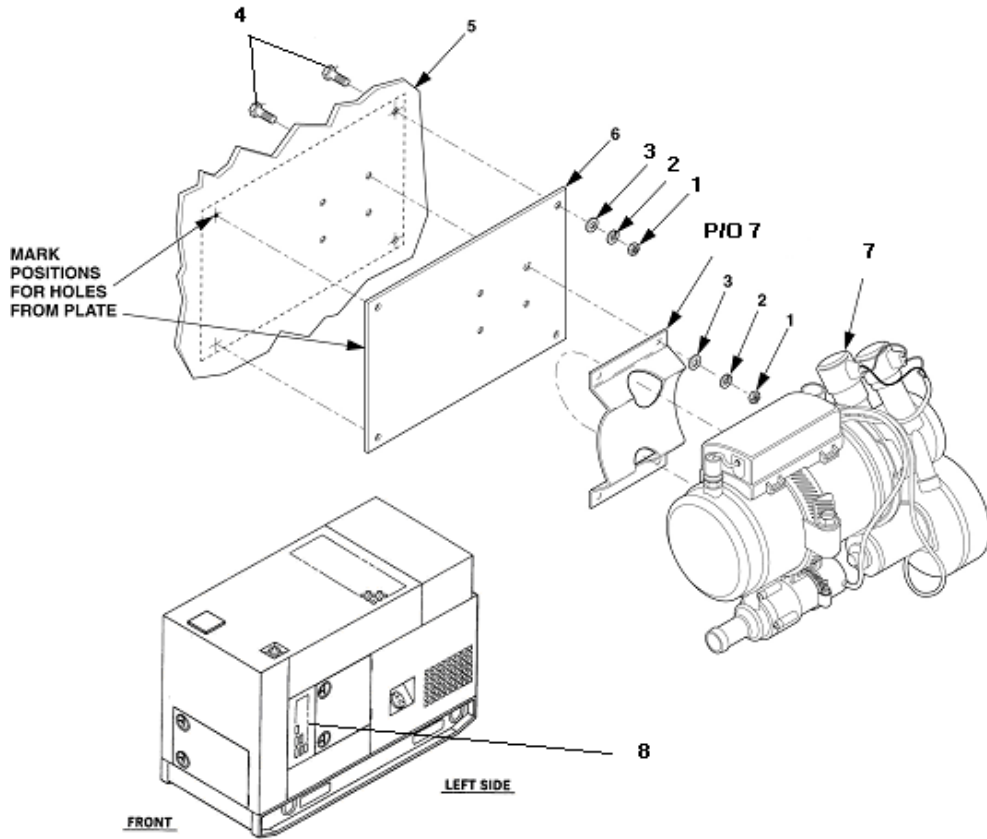

Figure 4-44. Heater Assembly.
13. Remove heater assembly (7), Figure 4-44, from left side panel (5) along with all hardware and plate (1, 2, 3, 4, and 6).